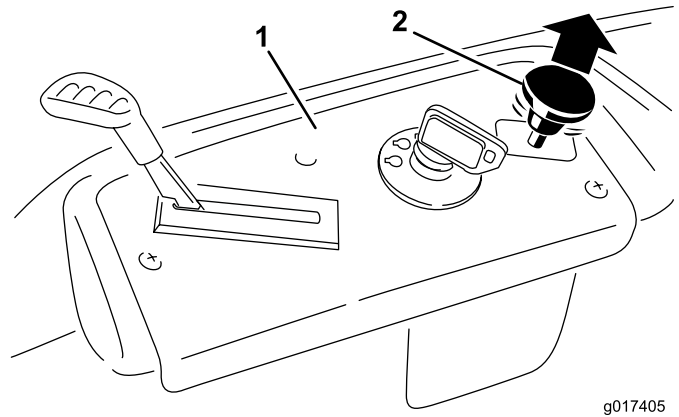

Figure 15
3. Pull up on the blade-control switch to move it to the On position, and engage the blades (Figure 15).